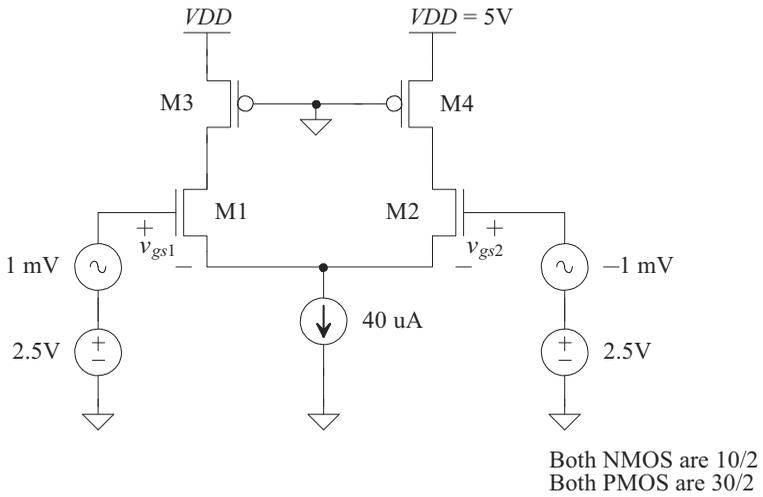

Figure 9.45 Circuit used in Problem 9.14.
- 9.14** Calculate the DC and AC voltages and currents for the circuit seen in Fig. 9.45. Verify your answers with a SPICE AC analysis simulation.